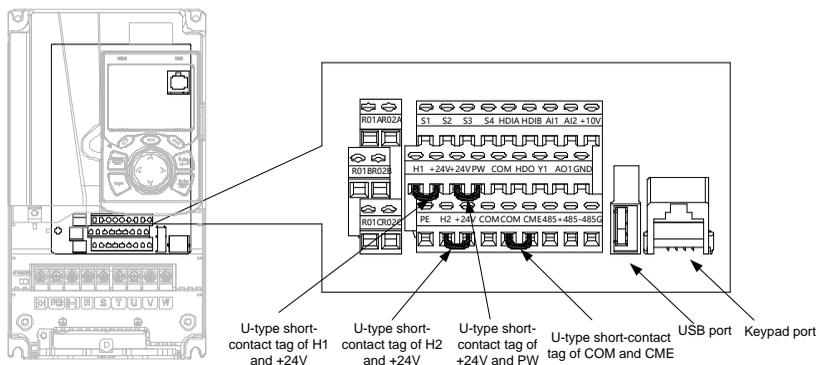

Figure 4.19 Position of U-type short-contact tag
**Note:** As shown in Figure 4.19, the USB port can be used to upgrade the software, and the keypad port can be used to connect an external keypad. The external keypad cannot be used when the local VFD keypad is used.